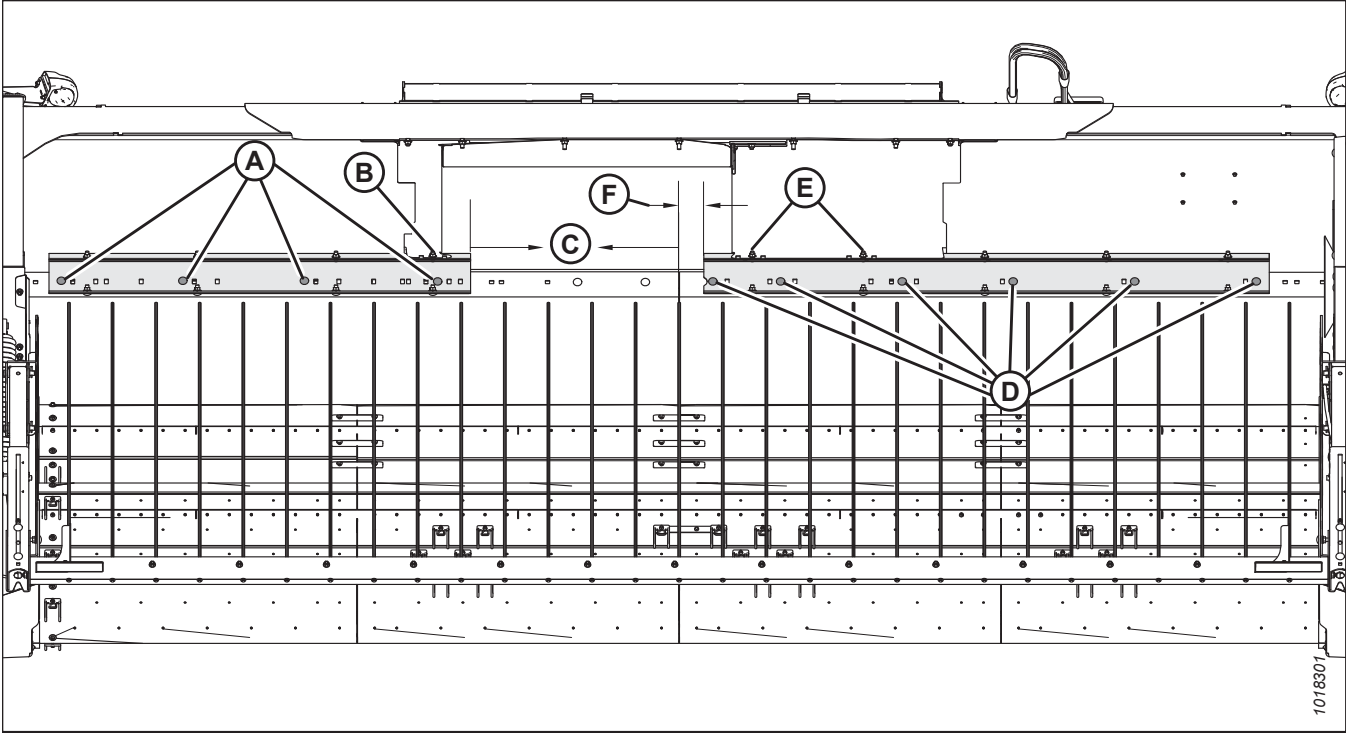

Figure 3.136: Factory Configuration 816 mm (32-1/8 in.)
1. Loosen three bolts (A) and remove cover (B) on both sides of the header to expose the stripper bracket attachment hardware.
- Figure 3.136, page 84